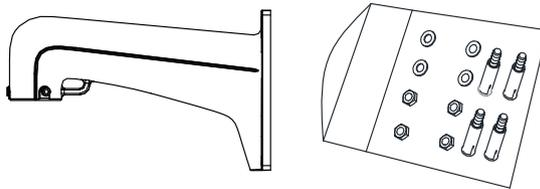

Figure 3-4 Bracket and Accessories
- The bracket in Figure 3-4 is the recommended bracket for this series of speed dome, and a pendant adapter is required if any other bracket is selected. The dimension of pendant adapter is $G1\frac{1}{2}$.
- The bracket in Figure 3-4 is the recommended bracket for this series of speed dome, and a pendent adapter is required if any other bracket is selected.